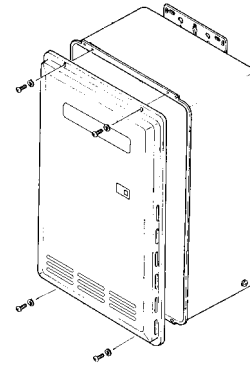

fig.1.
2. Remove the front cover from the Appliance (4 screws) fig. 1.
7. Remove the front cover from the Appliance (4 screws) fig.1.